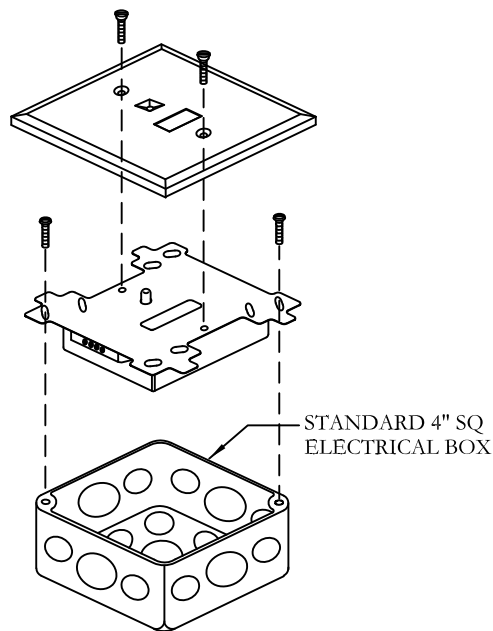

FIGURE 2
The DCP Supervised Output module is mounted as shown in Figure 2 on page 2 of this instruction.
- 2) Secure the module to a U.L. listed electrical box (supplied by installer), as shown in Figure 2.